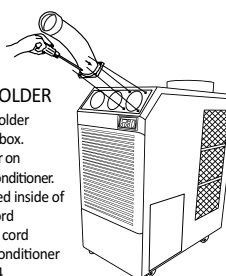

Figure 5
3. Use screws (enclosed inside of box with cool air outlet hose(s) to install the cool air outlet hose(s) on the air conditioner as shown in Figure 5.